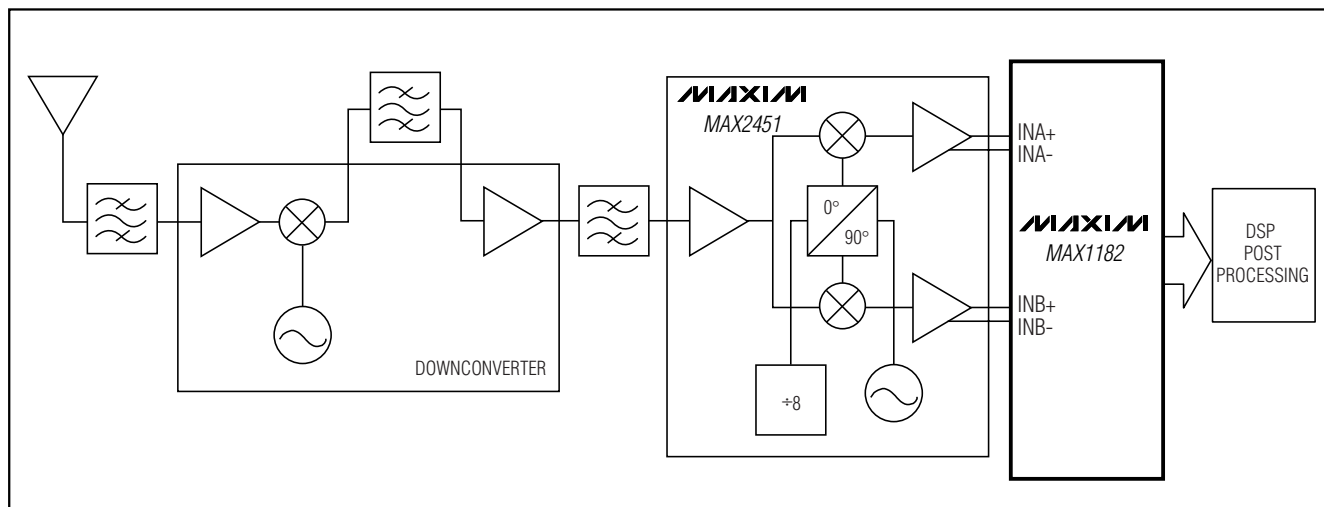

Figure 8. Typical QAM Application, Using the MAX1182
The most frequently used modulation technique for digital communications applications is probably the Quadrature Amplitude Modulation (QAM). Typically found in spread-spectrum based systems, a QAM signal represents a carrier frequency modulated in both amplitude and phase. At the transmitter, modulating the baseband signal with quadrature outputs, a local oscillator followed by subsequent up-conversion can generate the QAM signal. The result is an in-phase (I) and a quadrature (Q) carrier component, where the Q component is 90 degree phase-shifted with respect to the in-phase component. At the receiver, the QAM signal is divided down into its I and Q components, essentially representing the modulation process reversed. Figure 8 displays the demodulation process performed in the analog domain, using the dual matched +3V, 10-bit ADC MAX1182 and the MAX2451 quadrature demodulator to recover and digitize the I and Q baseband signals. Before being digitized by the MAX1182, the mixed-down signal components may be filtered by matched analog filters, such as Nyquist or pulse-shaping filters which remove any unwanted images from the mixing process, thereby enhancing the overall signal-to-noise (SNR) performance and minimizing inter-symbol interference.